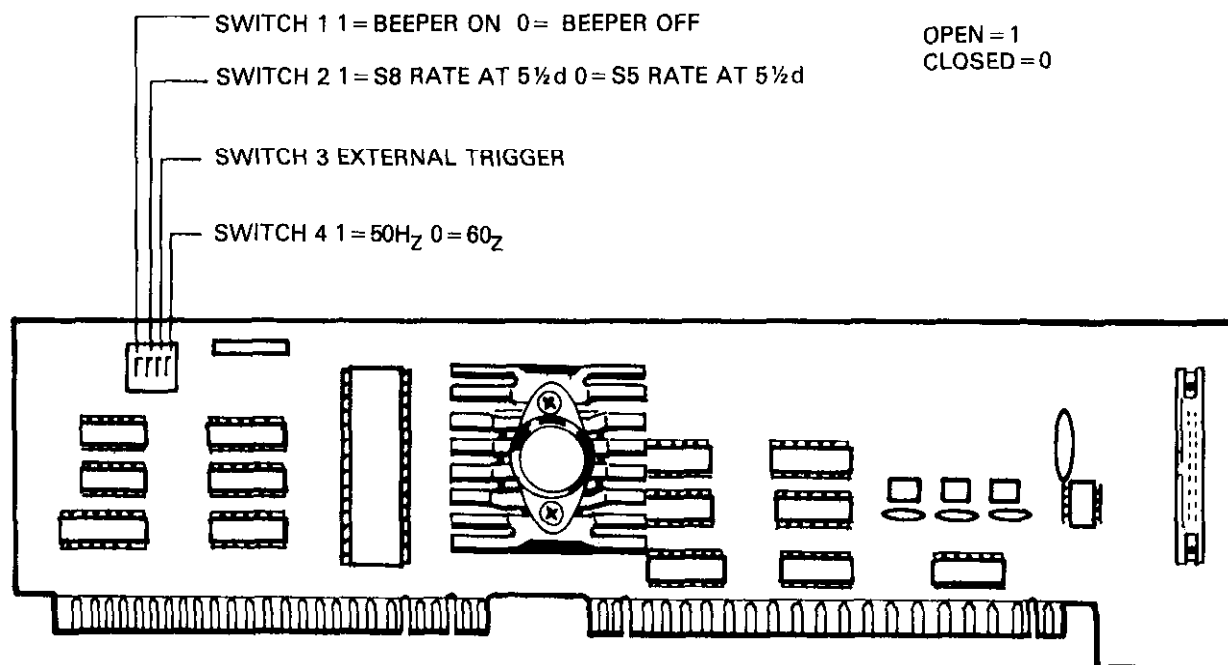

Figure 6-1. Isolator Board and Switches
Select the appropriate line frequency by setting switch 4 of S801 (Figure 6-1) to the closed position (0) for 60Hz operation or to the open position (1) for 50Hz operation. If the Model 619 is on while changing the switch position, the new frequency setting will not be accepted until the instrument is turned off and then powered back on.
2. Set switch 1 of S801 on the Isolator Board to the open position (1) (refer to Figure 6-1).
2. Set switch 2 (Figure 6-1) on the Isolator Board to the closed position (0).
2. Set switch 2 (Figure 6-1) on the Isolator Board to the open position (1).